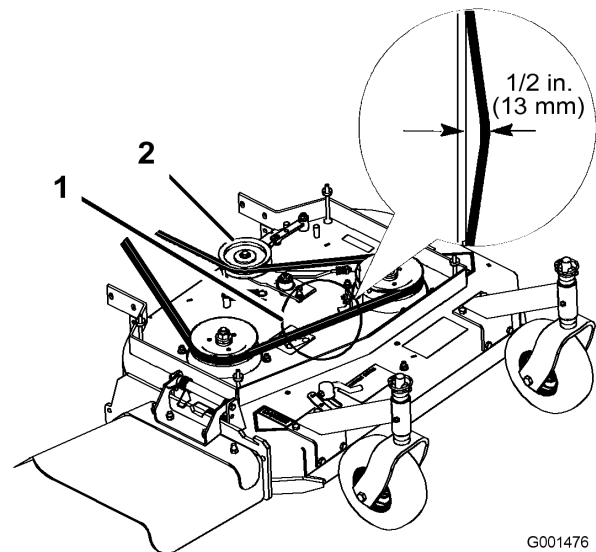

Figure 34
4. Remove the idler pulley and the worn belt (Figure 34).
Note: The proper mower belt tension is 10-15 lbf. (44-67 N) with the belt deflected 1/2 inch (13 mm) halfway between the pulleys (Figure 34).